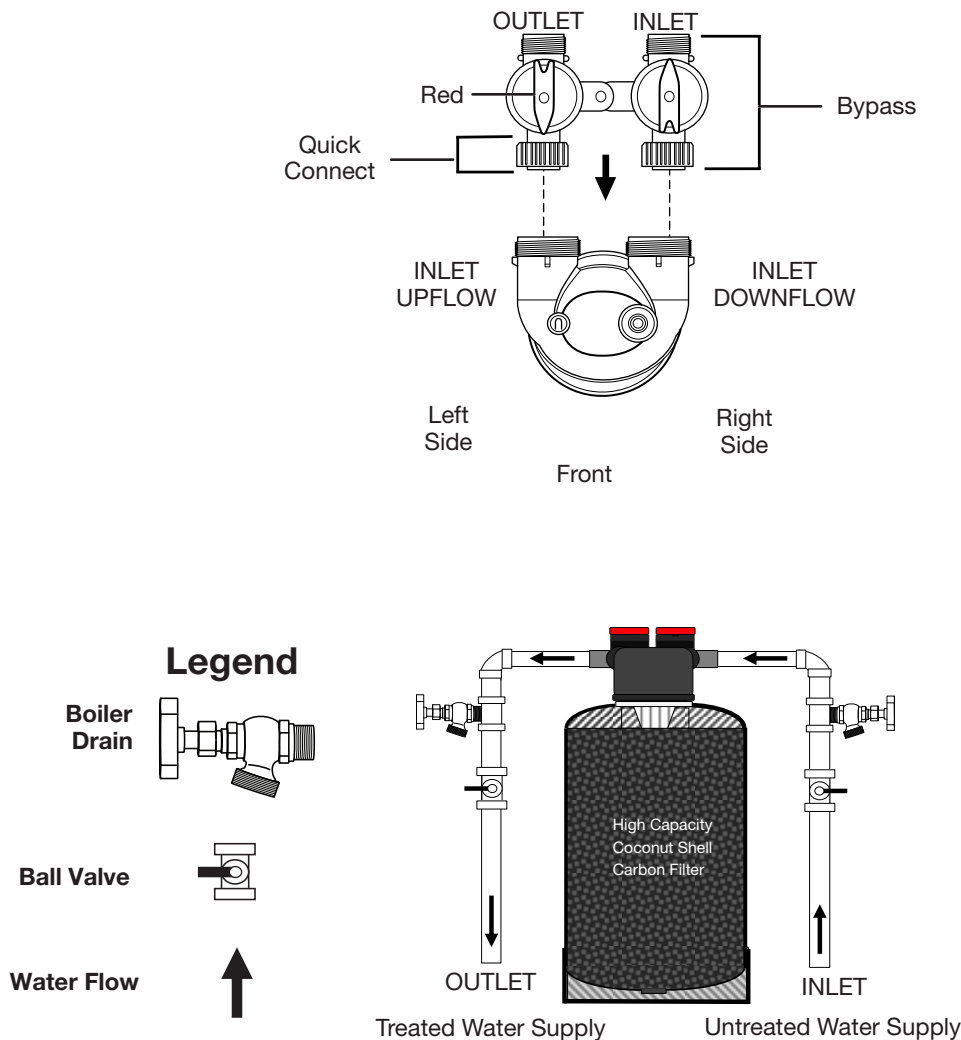

Figure 8
- Install a ball valve and a boiler drain before and after the filter as shown in Figure 8 to use for testing the water before and after the filter.